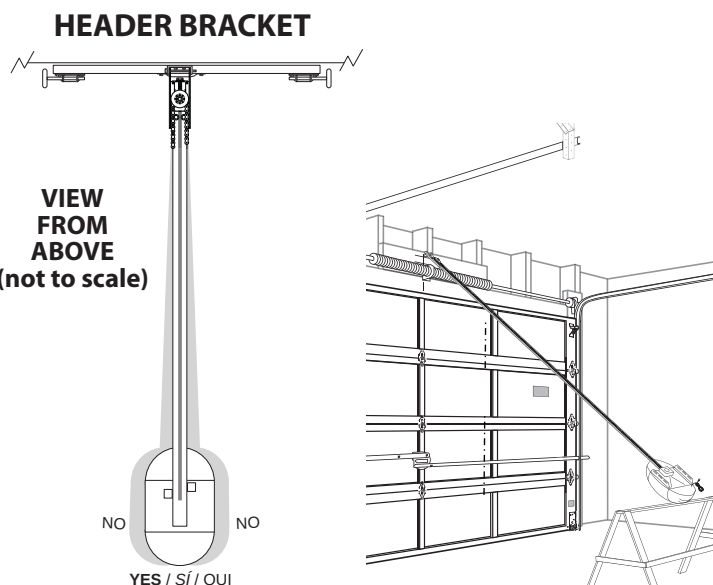

FIG. 2-4 Position assembly and align
- Position assembled rail on wall next to header bracket (**Fig. 2-4**).
NOTE: Before final attachment to ceiling, insure that assembly is in proper alignment (**Fig. 2-4**).